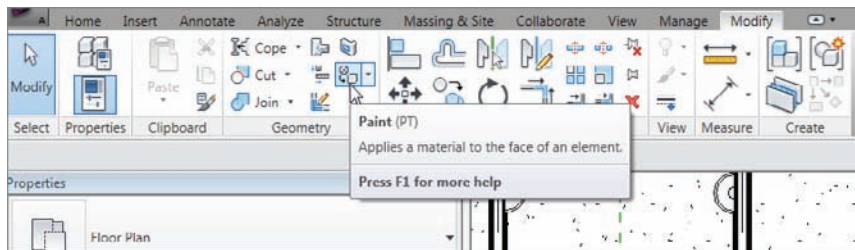

FIGURE 9.73 The Paint button
1. Click the Paint icon in the Geometry panel of the Modify tab, as shown in Figure 9.73.